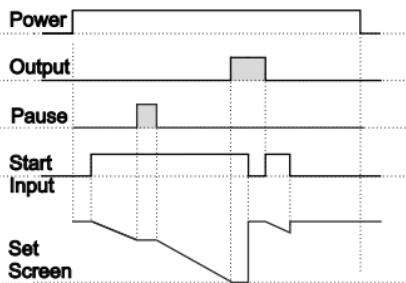

Figure 3.2
3.1.2 If Downcount `dEct`=1 and `butF` is `OFF` the control diagram is shown in Figure 3.2